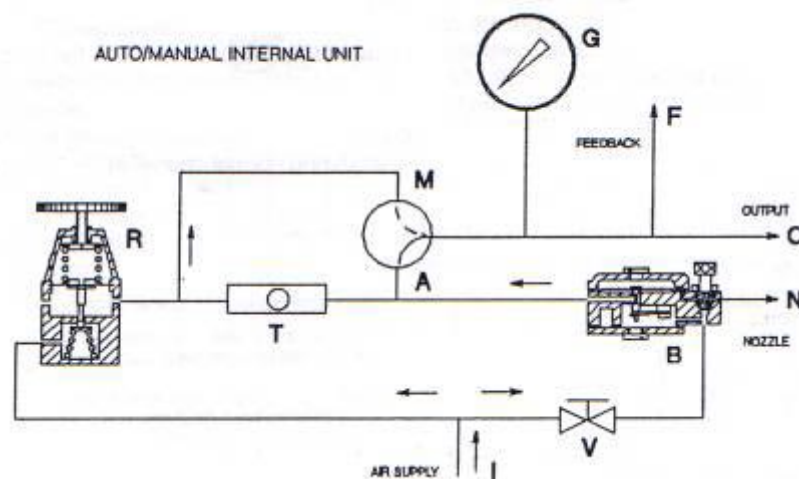

Figure 3. Auto /Manual internal unit
#### **5.1 - Switching from Automatic to Manual mode (refer to fig.3)**
### 5.2 - Switching from Manual mode to Automatic mode (refer to fig.3)
- C Turn the relay air supply shut-off valve [V] (see fig. 3) to position (C).
- A Turn the air supply off or, if the instrument has internal Auto/Manual control, switch over into manual mode and place shut-off valve [V] in position (C). See also figure 3.